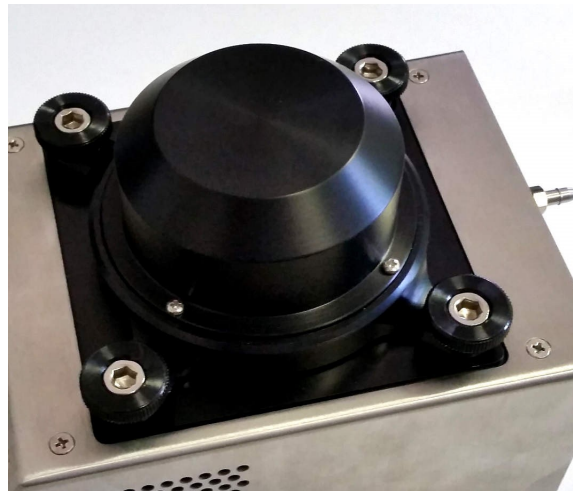

Figure 7: TAP thumb screws
2. Remove the 4 thumb screws from the top of the instrument (figure 7).
12. Once seated, secure the top hat with the 4 thumb screws from figure 7. Tighten them in a star pattern. You should be able to fully engage the threads without tools, but if necessary the thumb screws have sockets for hex keys.